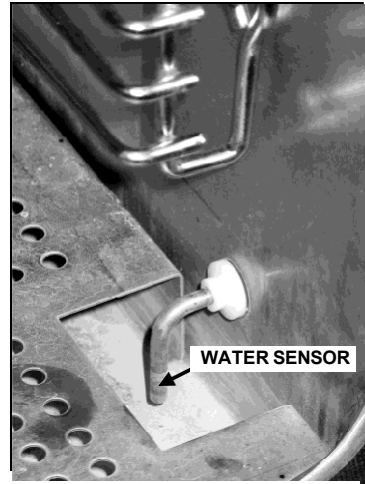

Figure 4-1
- The Add Water alarm and indicator will turn ON whenever the water level drops below the water sensor located at the lower right front of the steamer's interior. (See Figure 4-1.)